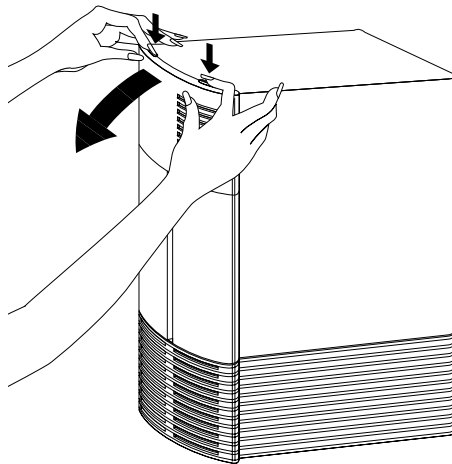

Figure 3-2 Removing the Plastic Cover of the Indigo Chassis
- Press down on the tabs and pull the panel away from the chassis, as shown in Figure 3-2.